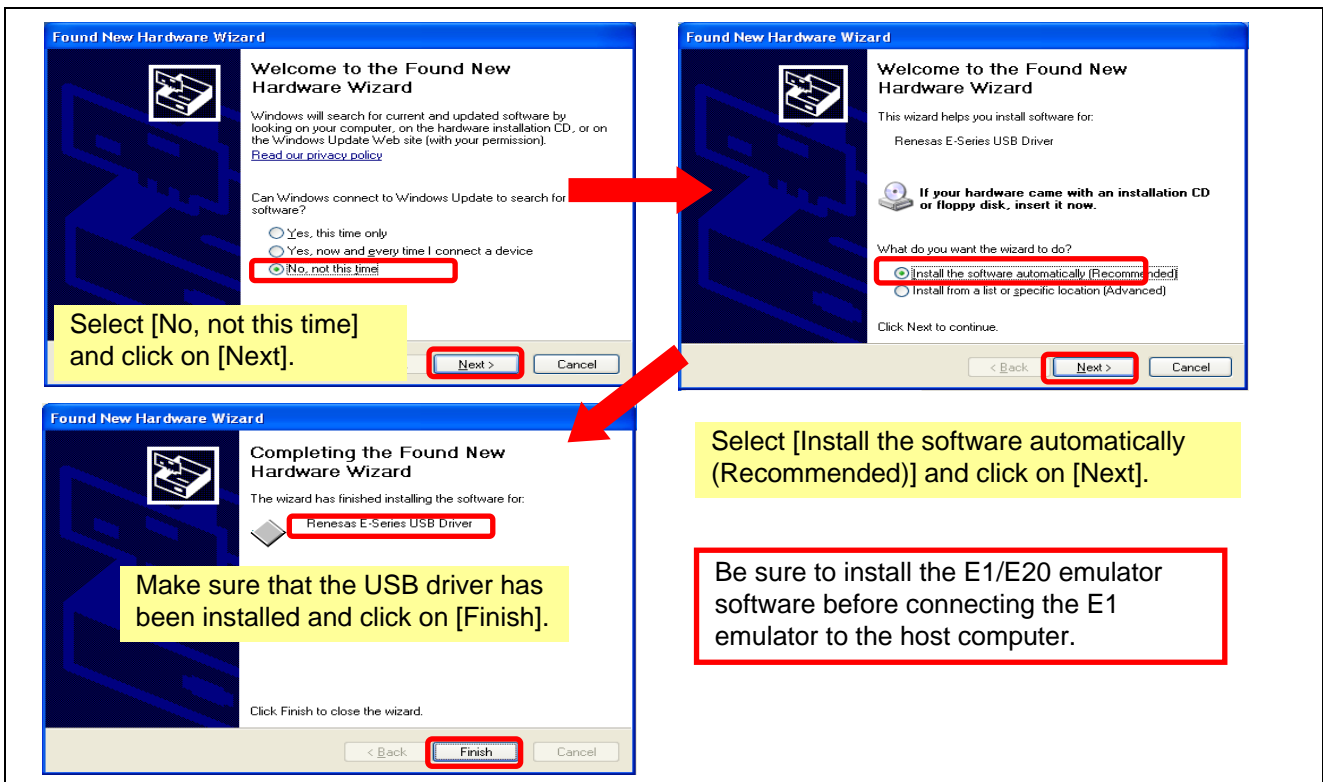

Figure 3.14 Found New Hardware Wizard
- (1) Connect the E1 emulator and host computer via a USB interface cable. When the dialog box shown in Figure 3.14 appears, follow the instructions on the screen to install the USB driver. The pictures below are from a computer running Windows® XP. The display varies with the operating system.